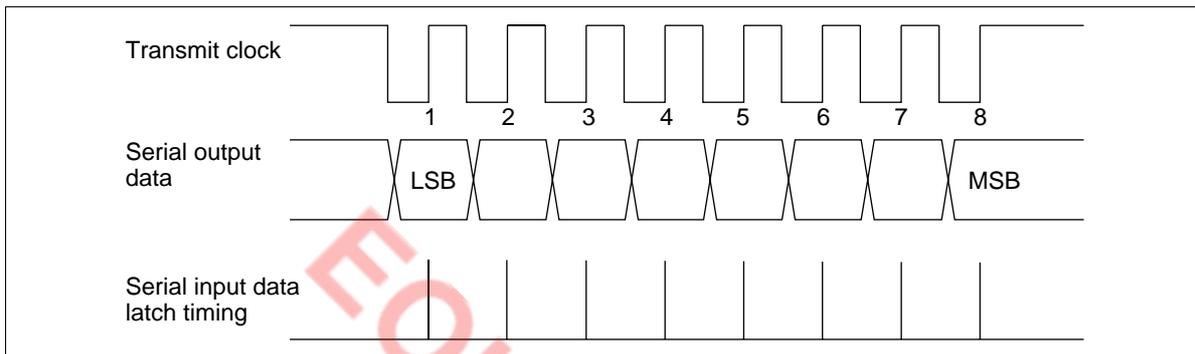

**Figure 57 Serial Data Register (SRL)**
**Serial Data Register (SRL: \$006, SRU: \$007):** This register has the following functions (figures 57 and 58).